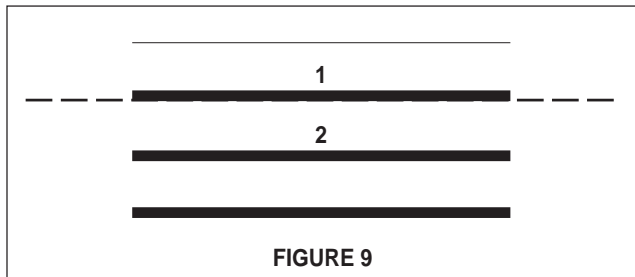

FIGURE 9
1. The **DIVERTER EXTENSION VERTICAL (6)** comes in two pieces which must be cut before assembling. Using a pair of scissors, cut each piece just under the ridge under the number 1 as indicated by the dotted line in **FIGURE 9**.